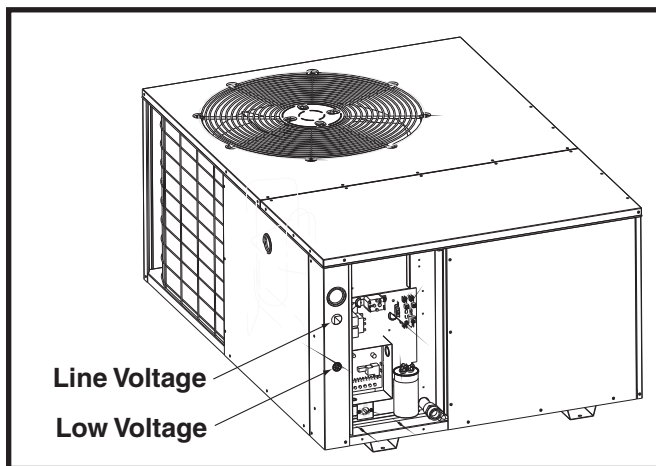
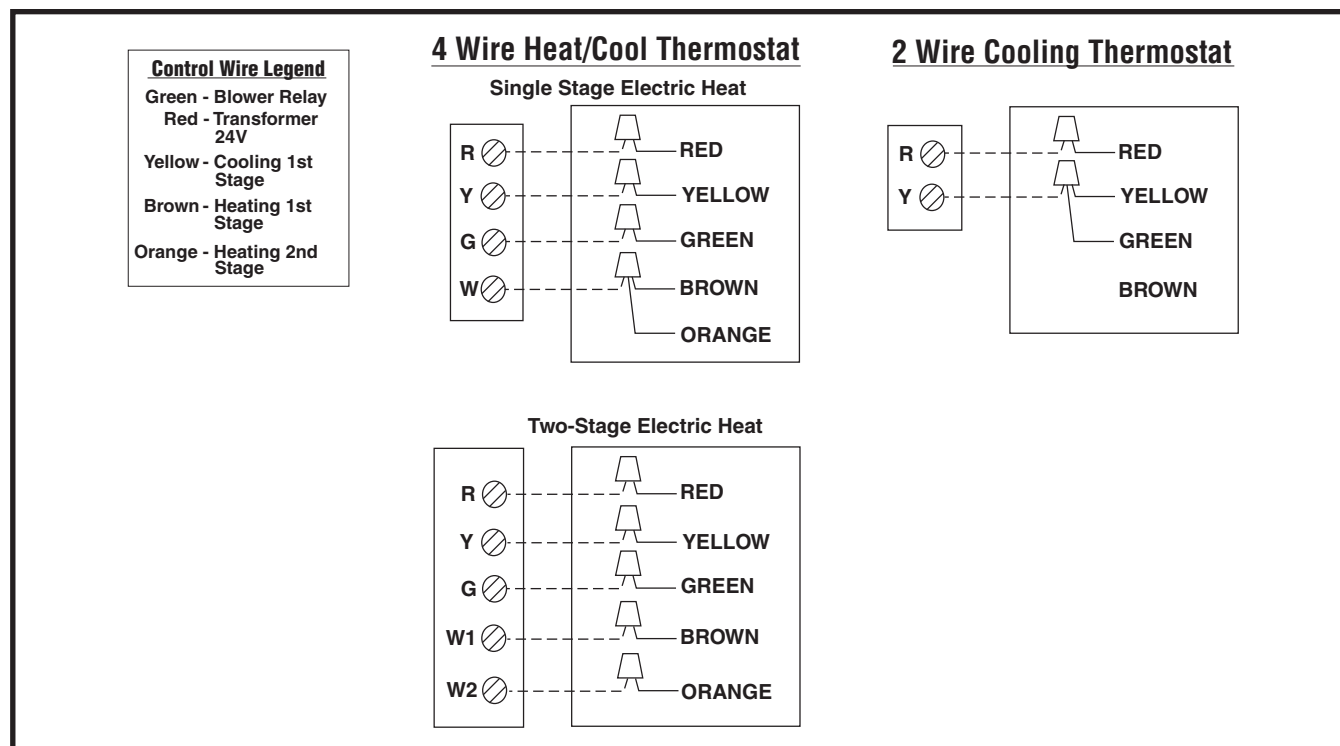

Figure 6. Power Entry
Figure 7. Typical Wiring (Field Supplied) for 2-Stage Cool, 2-Stage Electric Heat
- Provide power supply for the unit in accordance with the unit wiring diagram, and the unit rating plate. Connect the line-voltage leads to the terminals on the contactor inside the control compartment. Extend leads through power wiring hole (Figure 6). Connect **L1 & L2** directly to the contactor.
- The low voltage wires must be properly connected. Route 24V control wires through the sealing grommet (Figure 6, page 9) near the power entrance. Connect the control wires to the defrost board and blower relay wire (Figure 7). Recommended wire gauge and wire lengths for typical thermostat connections are listed in Table 2.